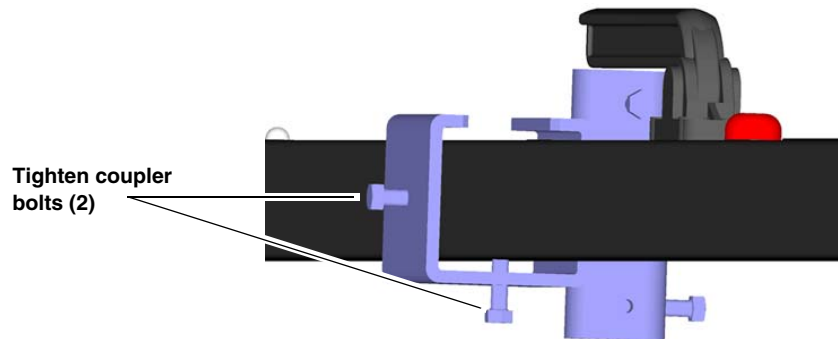

Figure 2-26 Temp Mount: Securing the coupler
2. Slide the coupler onto the bar, tightening the two coupler bolts (see Figure 2-26) enough to prevent it from sliding around during the rest of the installation.